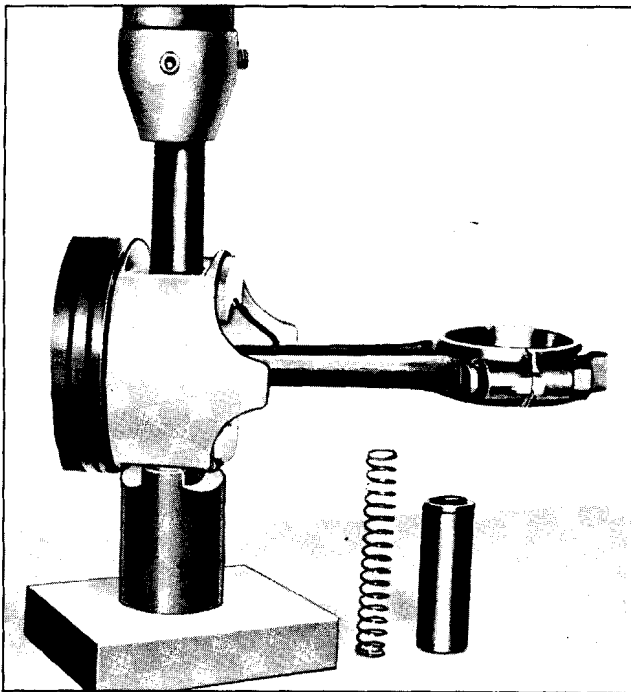

Fig. 6-59 Removing Piston Pin
3. Install piston and connecting rod assembly on support and place assembly in an arbor press (Fig. 6-59). Press pin out of connecting rod.